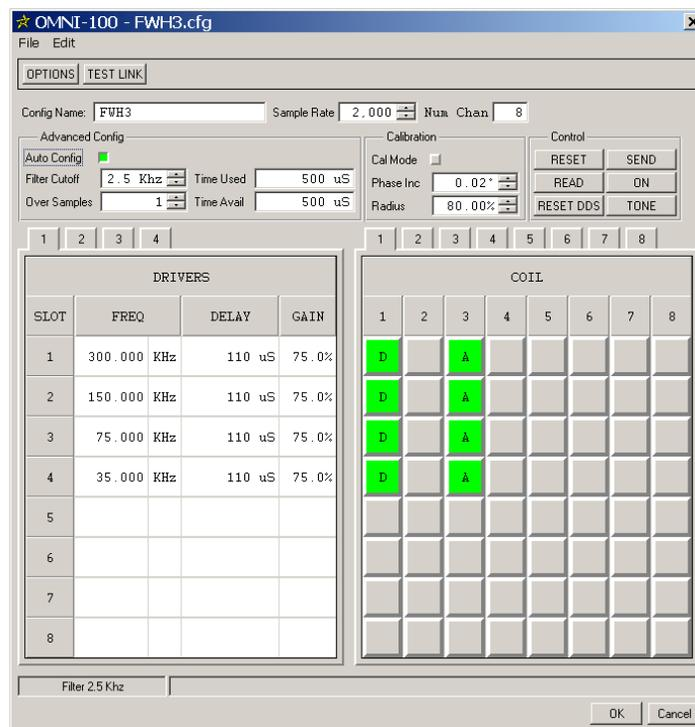

Figure 10-7. OMNI Test Config Dialog
- STEP 22:** The ***OMNI Test Config*** dialog should now appear setup as shown in Figure 10-7 below. Click ***OK*** on the ***OMNI Test Config*** dialog.